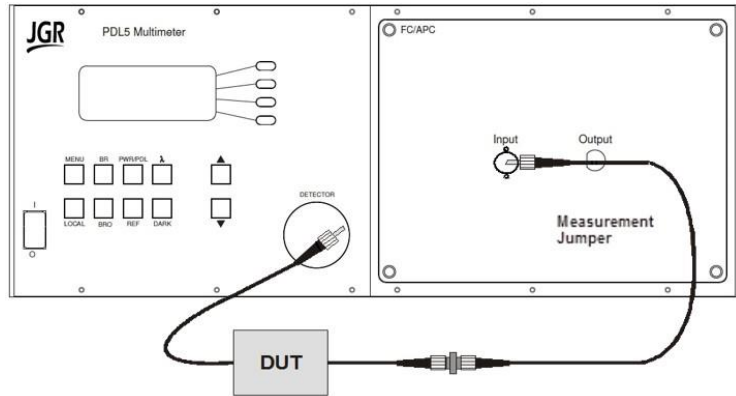

Figure 10: Measuring Absolute Power
5. Connect the output connector of the DUT to the detector on the front of the meter. The detector must be equipped with the appropriate detector adapter. The PDL5 meter displays the DUT absolute power output (see Figure 10).